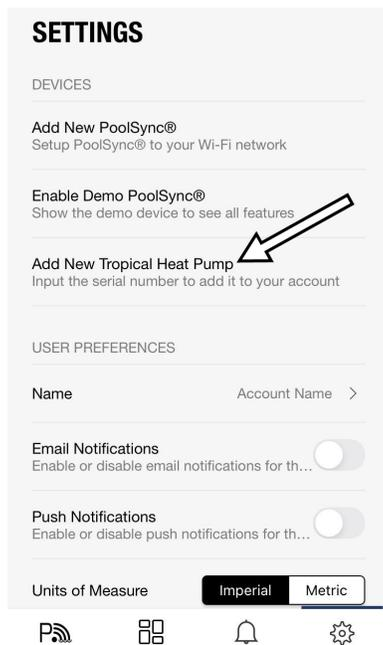

Figure 9
- b. Select "Add New TropiCal Heat Pump". See Figure 9.